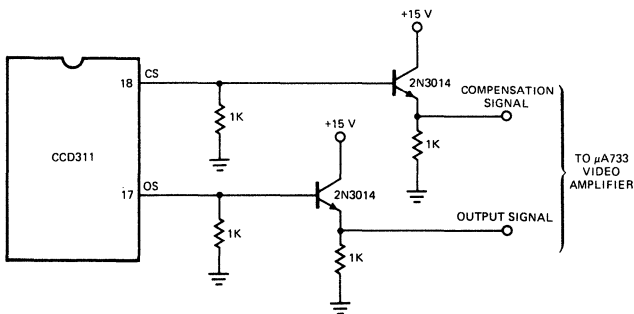

Fig. 1
8. See test load configuration, Fig. 1.